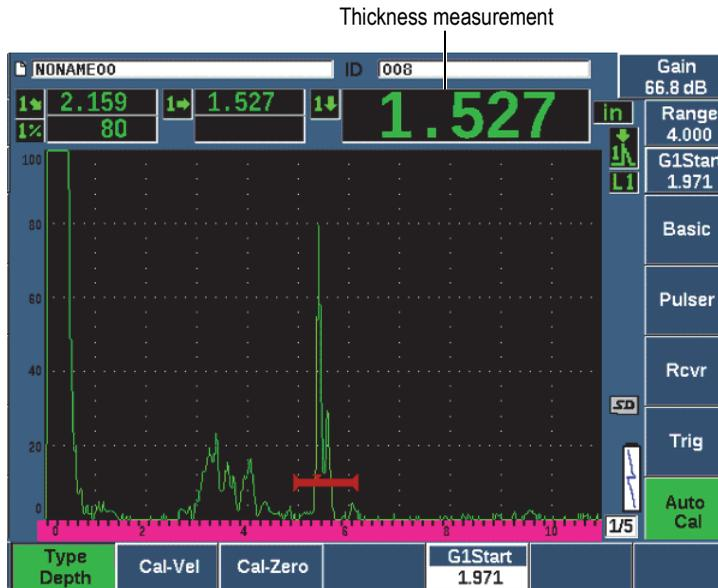

Figure 9-26 Example of a gated signal for zero calibration
- Use the G1Start button (P5 key) to position gate 1 so that the reflection from the first side-drilled hole is exceeding the gate threshold. This reflection should be close to 12.5 mm (0.5 in.) (see Figure 9-26 on page 177).